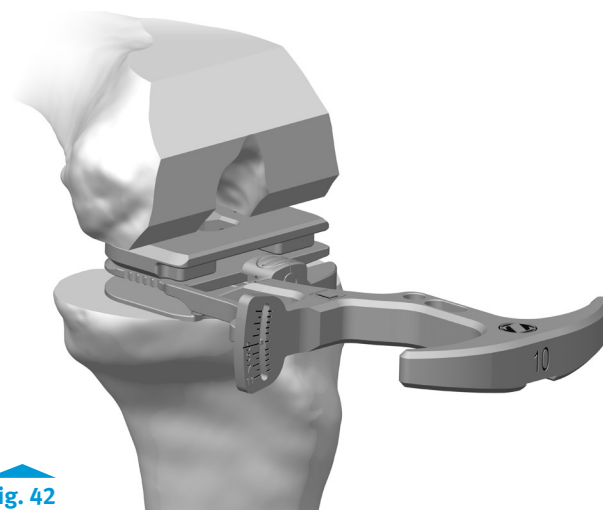

Fig. 42
- The +9mm *Zimmer FuZion* Femoral Paddle can be attached to the *Zimmer FuZion* +0mm Femoral Paddle and used with the *Zimmer FuZion* Spacer Block to check the flexion gap after resection (Fig. 42).